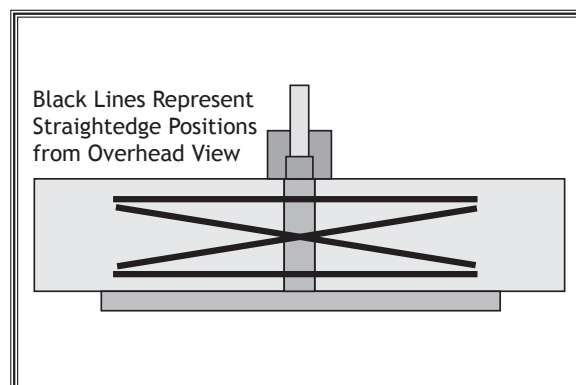

Figure 38. Straightedge positions for checking infeed/outfeed table parallelism.
8. Place straightedge in one of the positions shown in **Figure 38**, and rotate leveling adjuster(s) under straightedge until straightedge lies flat across both tables.